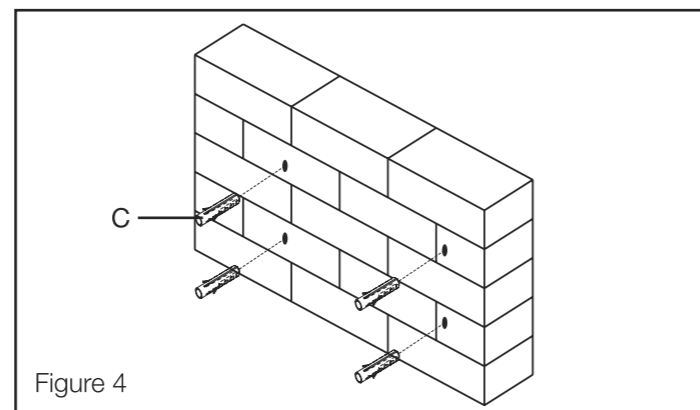

Figure 4
3. Fully insert the concrete anchors (C) into the drill holes. Tap in with hammer if required (see Figure 4).
4. Attach the Wall Plate by inserting the lag bolts (A) through the lag bolt washers (B) into each concrete anchor (C). Do not over tighten.